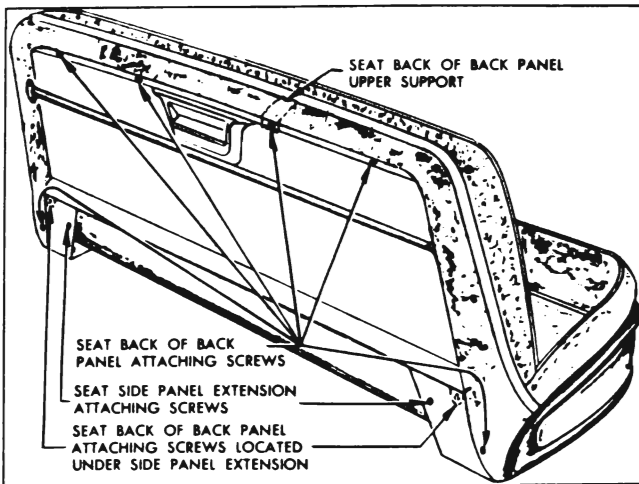

Figure 13-237—Front Seat Back of Back Panel Removal
3. Remove back of back panel attaching screws, figure 13-237.
4. Remove seat side panel extension attaching screws, then disengage side panel extensions sufficiently to remove back of back panel attaching screw located under side panel extensions, figure 13-237.